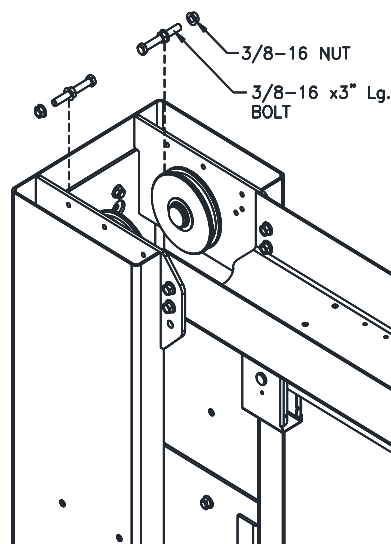

Fig. 11 – Column Ext. Cable Trapping
- 31) Route the free end of a cable coming out the top of the carriage up and over the upper sheaves and back down the opposite side. Install a 3/8x3 cable trapping bolt with a nut on each side of the overhead support plate at each sheave, **Fig. 11**. Do this for both cables.